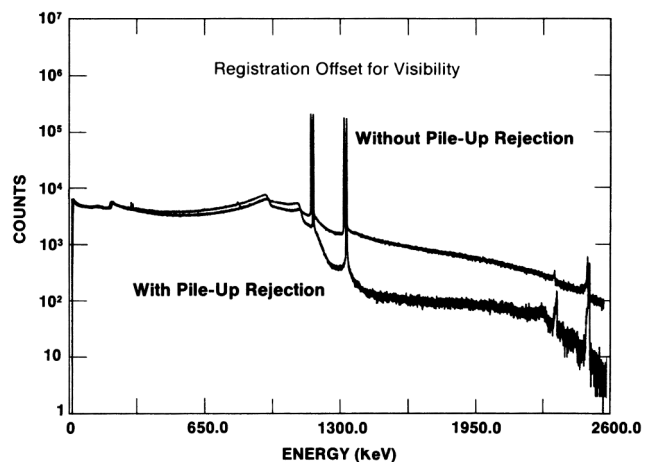

Fig. 3. Demonstration of the Effectiveness of the Pile-Up Rejector in Suppressing the Pile-Up Spectrum. See Pulse Pile-Up Rejector specification.
An efficient pile-up rejector is incorporated in the Model 672 Spectroscopy Amplifier. It provides an output logic pulse for the associated multichannel analyzer to suppress the spectral distortion caused by pulses piling up on each other at high counting rates (Fig. 3). The fast amplifier in the pile-up rejector includes a gated
**Pulse Pair Resolution** Typically 500 ns. Measured using the  $^{60}\text{Co}$  1.33-MeV gamma ray under the following conditions: 10% efficiency germanium detector, 4-V amplitude for the 1.33-MeV gamma ray at the unipolar output, 50,000 counts/s (Fig. 3).